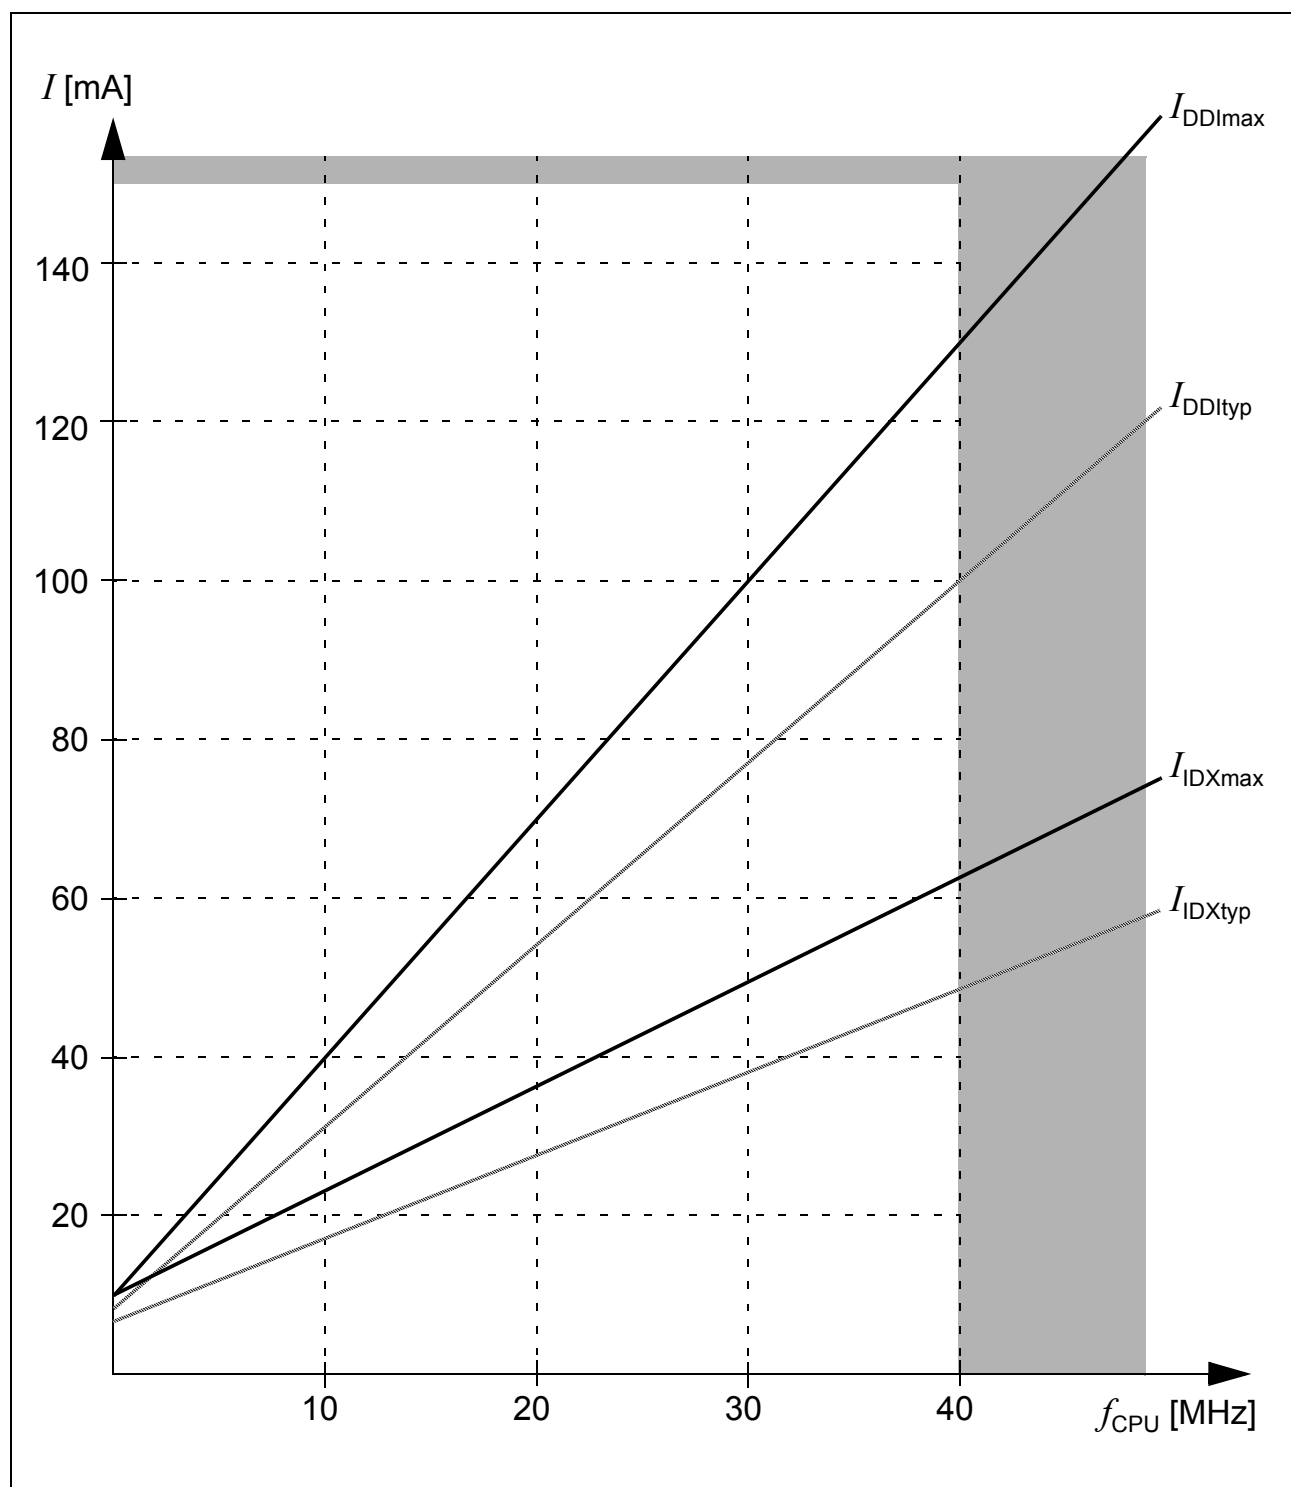

Figure 10 Supply/Idle Current as a Function of Operating Frequency
2) The supply current is a function of the operating frequency. This dependency is illustrated in Figure 10.